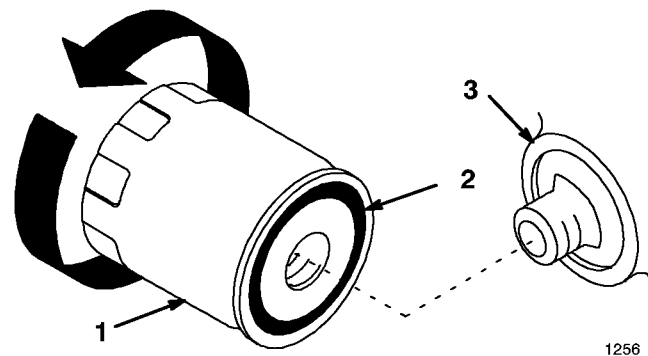

Figure 34A
6. Change oil filter. (Fig. 34A).
2. Remove the old filter and wipe the filter adapter (Fig. 34A) gasket surface.
3. Apply a thin coat of new oil to the rubber gasket on the replacement filter (Fig. 34A).
4. Install the replacement oil filter to the filter adapter. Turn the oil filter clockwise until the rubber gasket contacts the filter adapter, then tighten the filter an additional 1/2 turn (Fig. 34A).